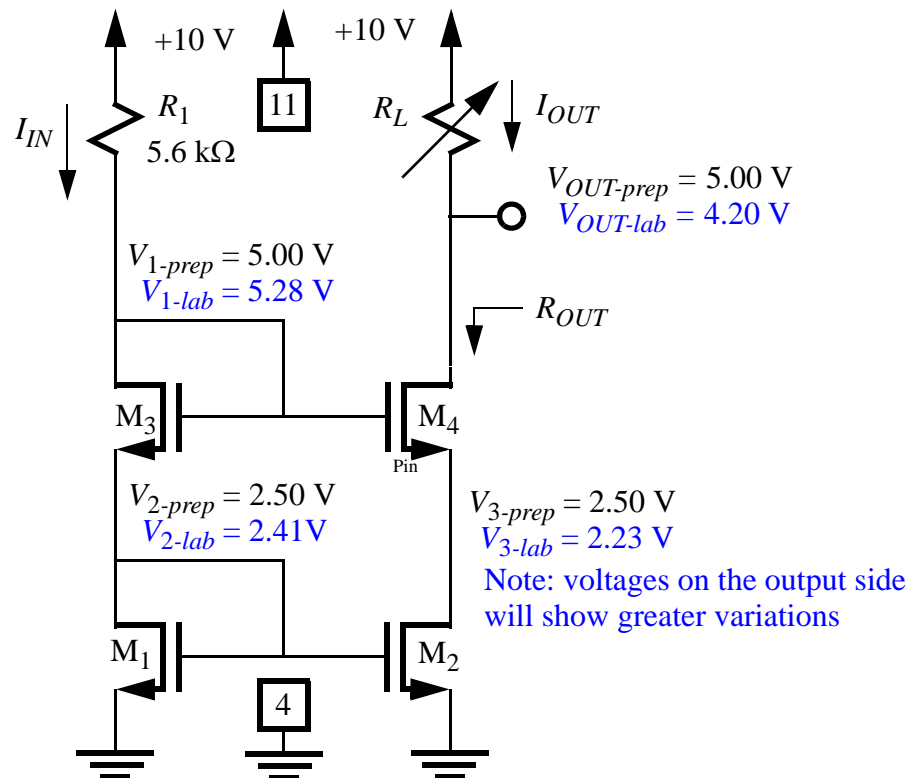

Figure 7) Lab version of Fig. 3 (a cascode current mirror).
- Construct a cascode current mirror and verify its operating point. To do this, power down your circuit. Then, remove the PMOS current mirror. Create a cascode mirror by changing the position of M_3 , adding M_4 to your circuit and changing the value of R_1 , as shown in Fig. 7. Power up your circuit and verify that your circuit analysis is correct by measuring the node voltages and recording them on Fig. 7. **1 Mark - should correspond to your preparation (see note below)**